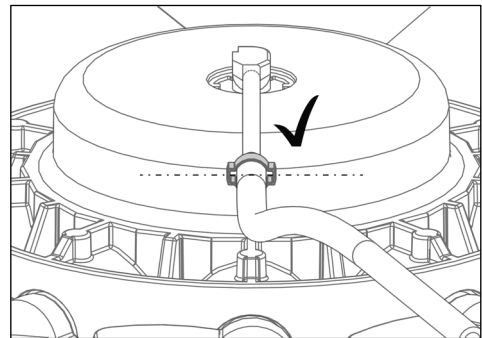

Fig. 18
- 10) Position the hose clamp as shown in Fig. 18.